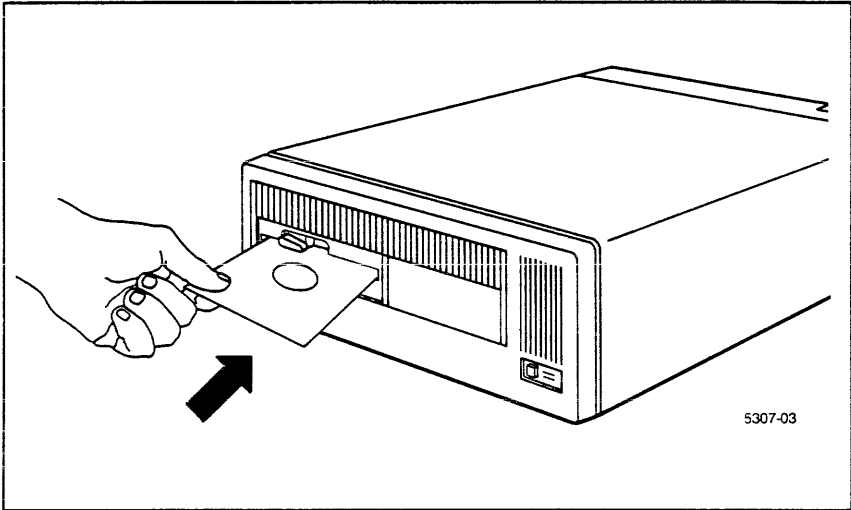

Figure 2-3. Inserting a Diskette.
2. Insert the diskette face up, with its label towards the drive latch (Figure 2-3).